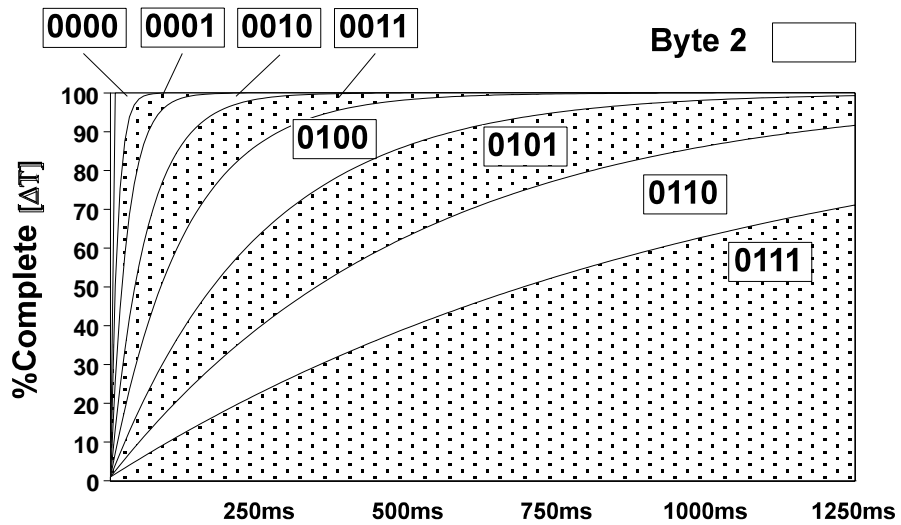

Figure 2.6 - The Effects of Digital Filtering
2.2.2.1 The effect of digital filtering (on the HE693RTD600/601 module) in response to a temperature change is graphically represented in Figure 2.6. (%temp change completed vs. time). Byte 2 sets the amount of digital filtering.